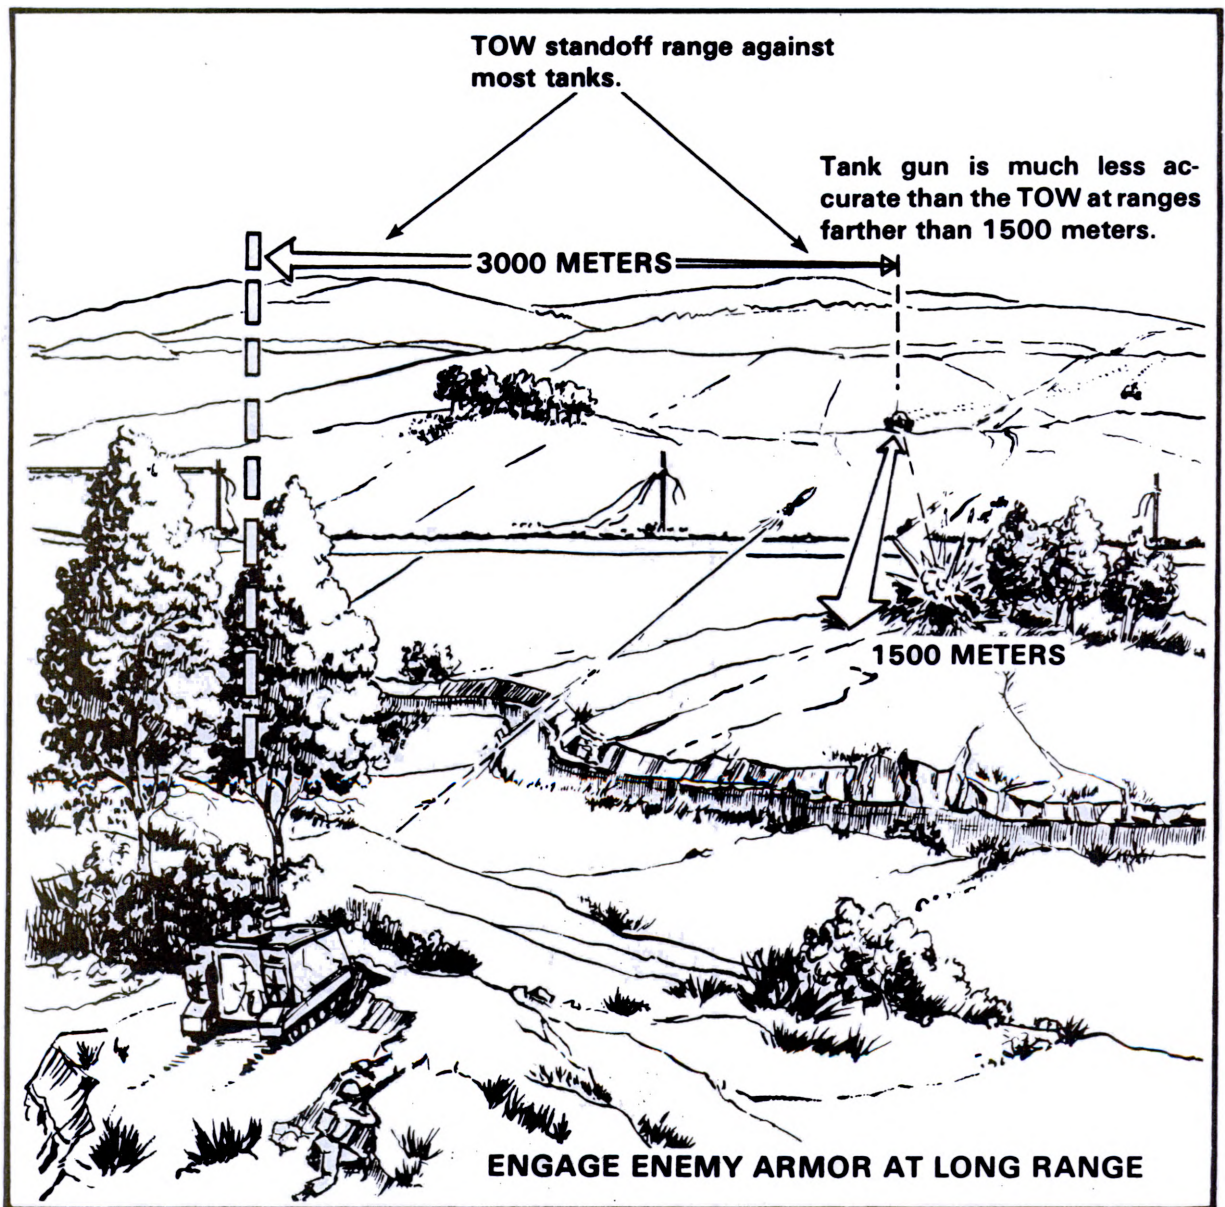

Figure 3
b. Exploit TOW Range. The most significant advantage of TOW is that it is more accurate than most tanks at ranges beyond 1,500 meters. The major limitation is that the TOW crew is exposed to enemy suppressive fires while firing. Therefore, the principal factors to consider when positioning TOW for employment are twofold: EXPLOIT THE CAPABILITIES OF THE WEAPON and PROTECT THE CREW FROM COUNTERMEASURES SUCH AS ARTILLERY AND TANK FIRE. (See fig. 3).